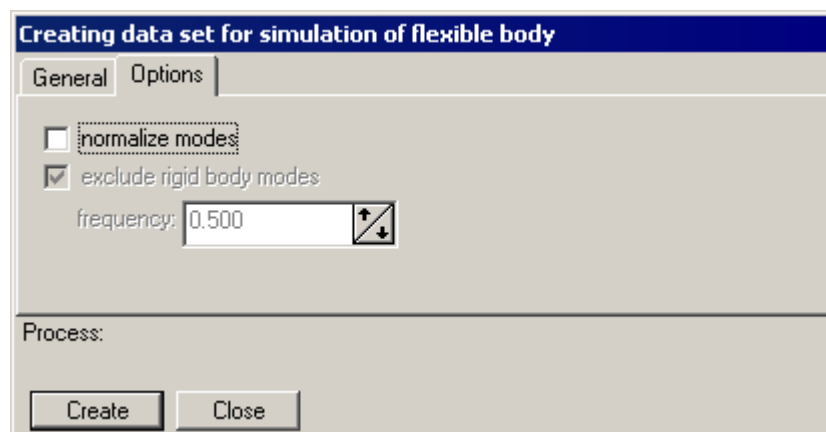

Figure 2.3.
6. Point to the **Options** tab and turn off the **normalize modes** check box, Fig. 2.3. This case corresponds to creating the intermediate **input.fum** file. On the successive step we will use the **Wizard of elastic subsystems** to convert the data into UM-compatible form.
**Note.** Using the wizard of flexible subsystem data is not an obligatory phase. Preparing the data can be fulfilled with the help of **ansys\_um** program. To do this point to the **Options** tab and turn on the **normalize modes** and **exclude rigid body modes** check boxes and set **frequency** value, Fig. 2.3. Nevertheless now we will use the wizard of flexible subsystem data in order to familiarize you with it.